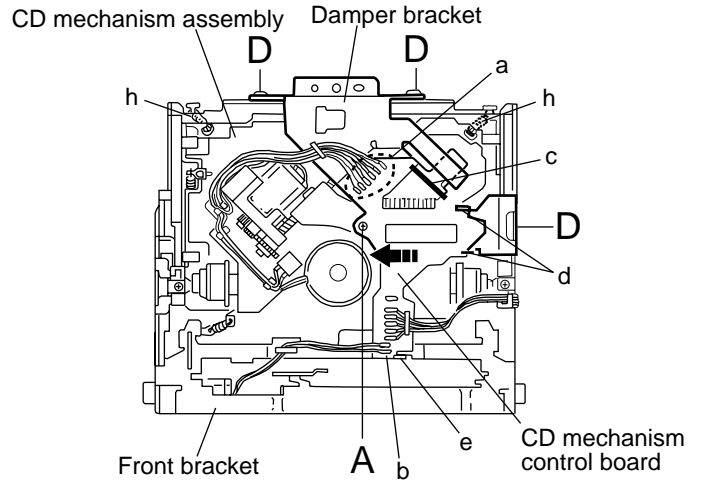

Fig.1
■ Removing the CD mechanism control board (See Fig.1 and 2)
(See Fig.1, 6 to 9)**